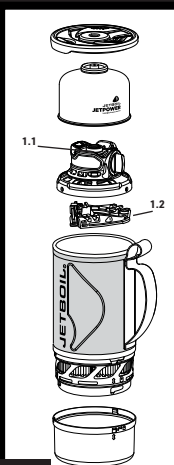

Fig. 1
1. Remove packed contents from pot (Fig 1).